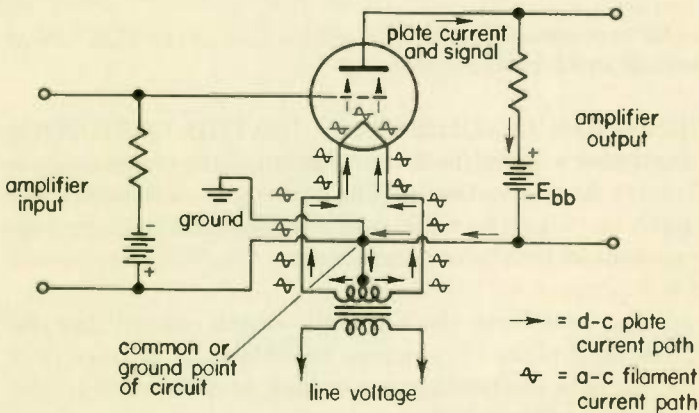

Fig. 3 Use of filament transformer center tap as common or ground point of circuit.
ciated with the tube to the center point of the filament transformer secondary winding as shown in Fig. 3. The "common or ground points" are the circuit return points for the plate voltage supply, grid input signal, etc. In most cases, the common or ground portion of the circuit is connected to the metal chassis upon which the circuit is assembled.
1. An amplifier similar to that of Fig. 3 is brought to you with the
2. You replace the filament transformer for an amplifier like the one shown in Fig. 3 and find that the secondary winding of the new transformer has no center tap. What provision would you make to substitute for the center tap?